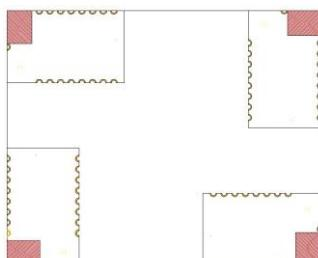

Figure 9 USR-C216a area
4. When user place C216 on test board, please place C216 on the area as follow Figure 9 to reduce influence to antenna.